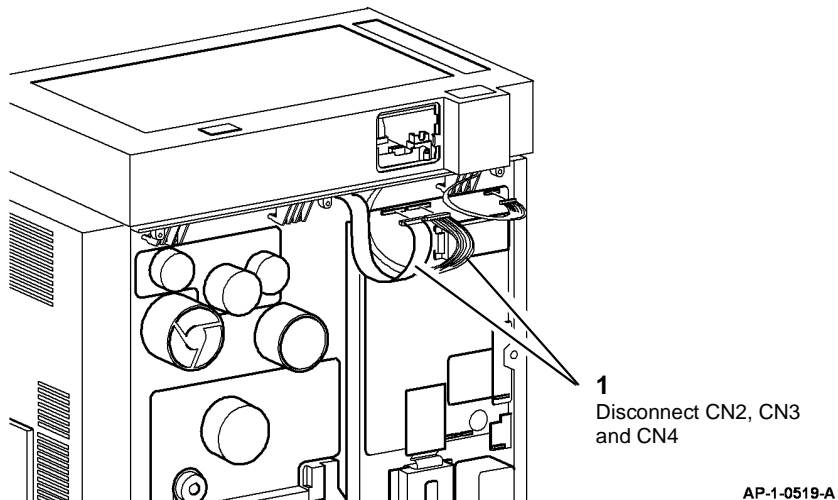

Figure 1 Harness removal
3. Disconnect CN2, CN3 and CN4 from the main PWB, Figure 1.